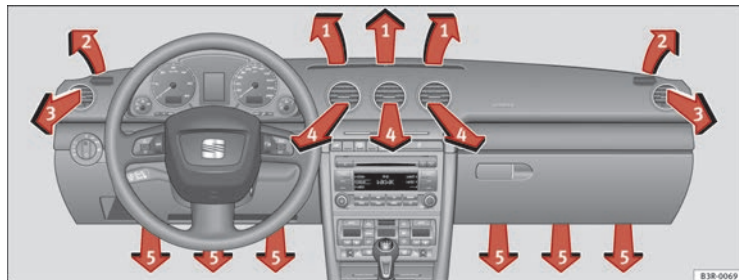

Fig. 132 Dash panel: Location of air outlets
The air outlets ⇒ fig. 132 ③ and ④ can be operated as follows:
Each of the three buttons has a specific function. The numbers relate to the air outlets ⇒ fig. 132.
After the ignition is switched off, the blower is supplied with electrical power from the sunroof. Please ensure that outlets 3 and 4 are open ⇒ fig. 132 to ensure the best possible ventilation.